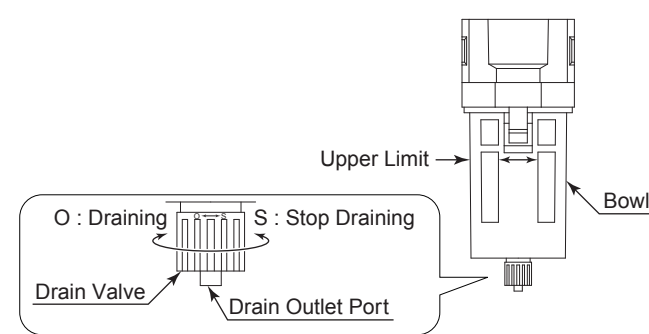

Fig. 13
- Draining from Air Filter (Fig. 13)